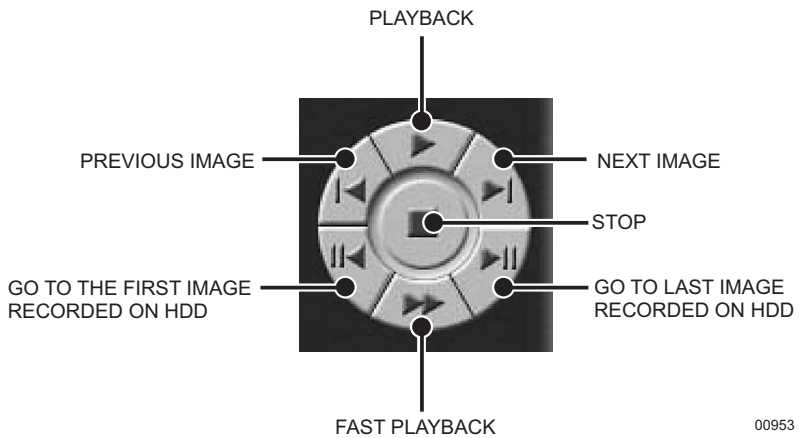

Figure 23. Playback Control Buttons
- 7 Playback Control Buttons – Refer to Figure 23.
6. Use the playback buttons to review a recording. Refer to Figure 23.